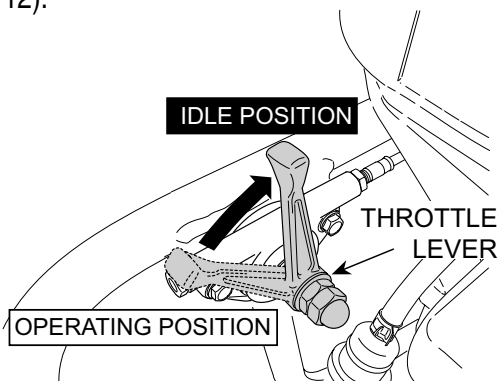

Figure 12. Throttle Lever (Idle)
3. Move the throttle lever to the "IDLE" position (Figure 12).